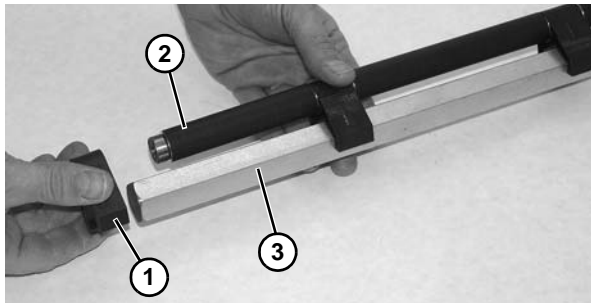

Figure 77
23. Remove spindle retainer (**Figure 77, item 1**), and each spindle assembly (**Figure 77, item 2**) from hex shaft (**Figure 77, item 3**).